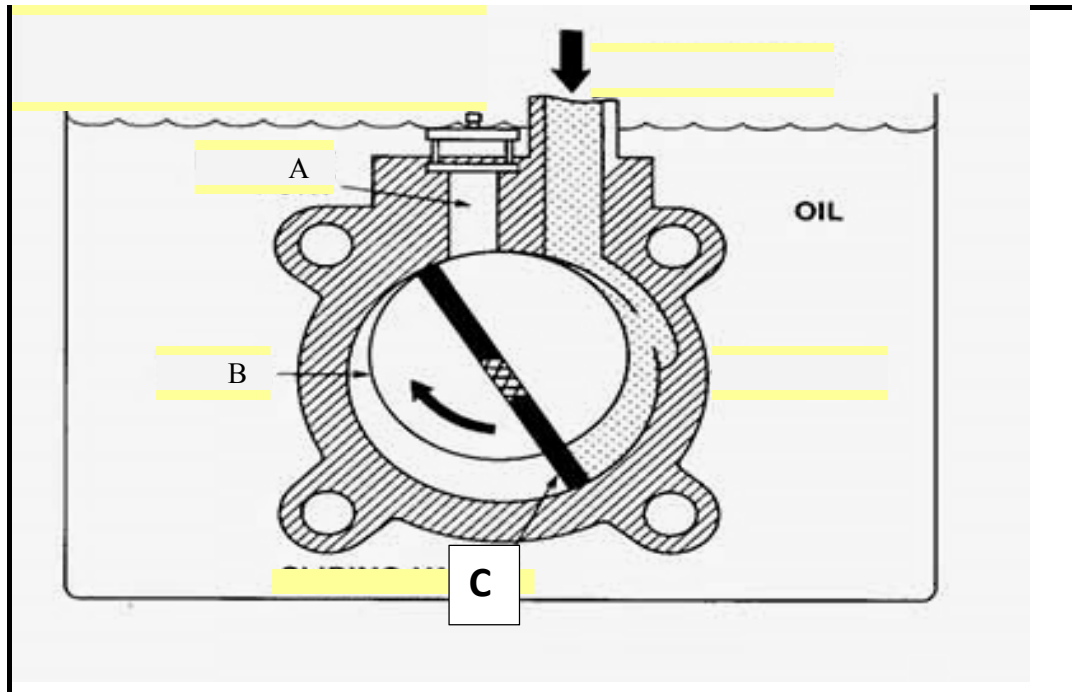

FIGURE 9.2
9.2 FIGURE 9.2 below shows the oil pump for an internal combustion engine. Study the diagram and answer the questions that follow.
9.2.1 What type of oil pump is shown in FIGURE 9.2? (1)